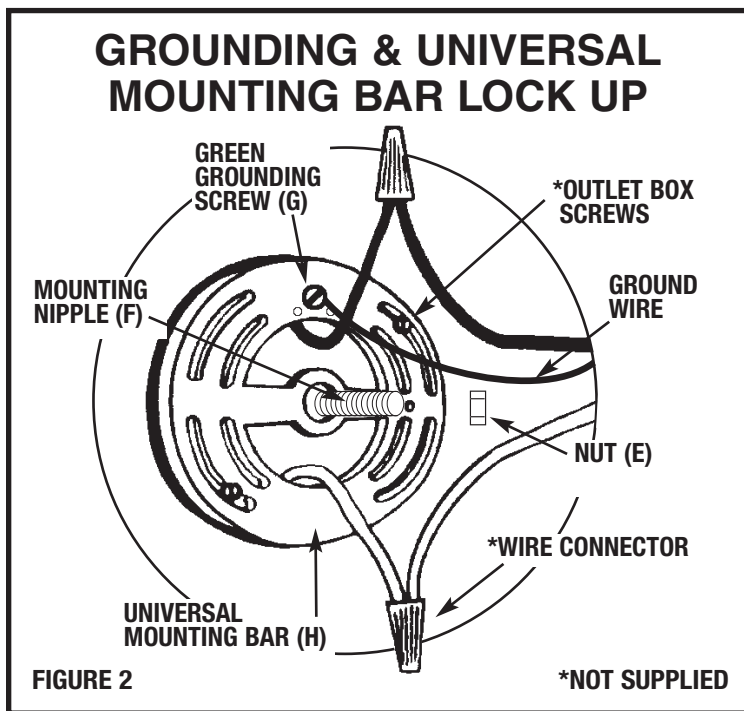

FIGURE 2
GROUNDING INSTRUCTIONS: The green grounding screw (G) is to be inserted into the hole with two raised dimples provided on the universal mounting bar (H). Wrap the ground wire from the fixture (if supplied) and the ground wire from the outlet box (bare metal or green insulated wire) around the green grounding screw (G) on the mounting bar (H). If uninsulated ground wire is on the mounting bar, connect the ground wire from the fixture (if supplied) and the outlet box to it using a small wire connector (not supplied) (See Figure 2).